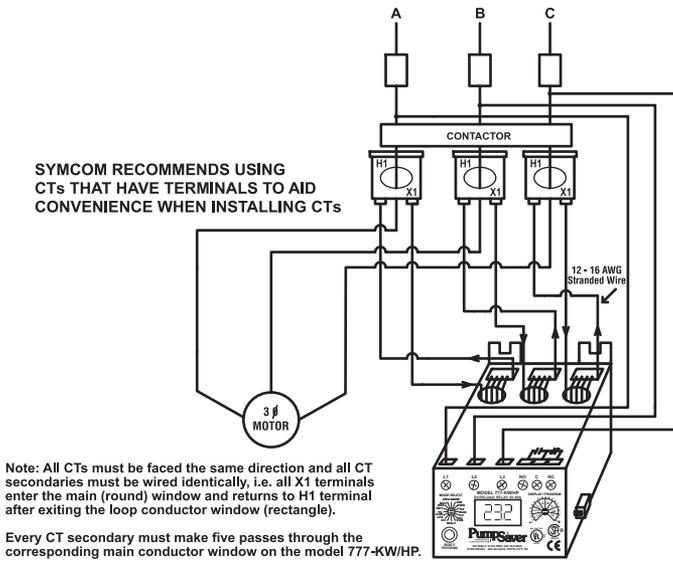

Figure 2: Typical Wiring Diagram Using External CTs.
C) For amperage greater than 90 amps, external CT's (current transformers) are required. SymCom recommends CT's with terminals be used for ease of installation. All CT secondaries must make five passes through the round holes on the PumpSaver. See Figure 2 for a typical wiring diagram using external CT's.